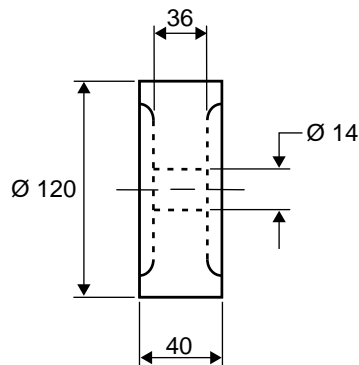

Figure 2
Figure 2 shows the type of wheel that will be used for the tool trolley.
- how the wheels shown in Figure 2 are kept on the axle